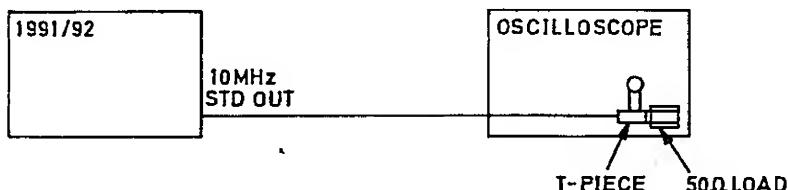

Fig 7.20 Connections for 10 MHz Standard Output Level PVP
55 (1) Connect the test equipment as shown in Fig 7.20.
(2) Verify that the peak-to-peak amplitude of the displayed waveform is $1.0 \text{ V} \pm 0.4 \text{ V}$. Verify that the mark/space ratio is between 30:70 and 70:30.
(3) Disconnect the test equipment.